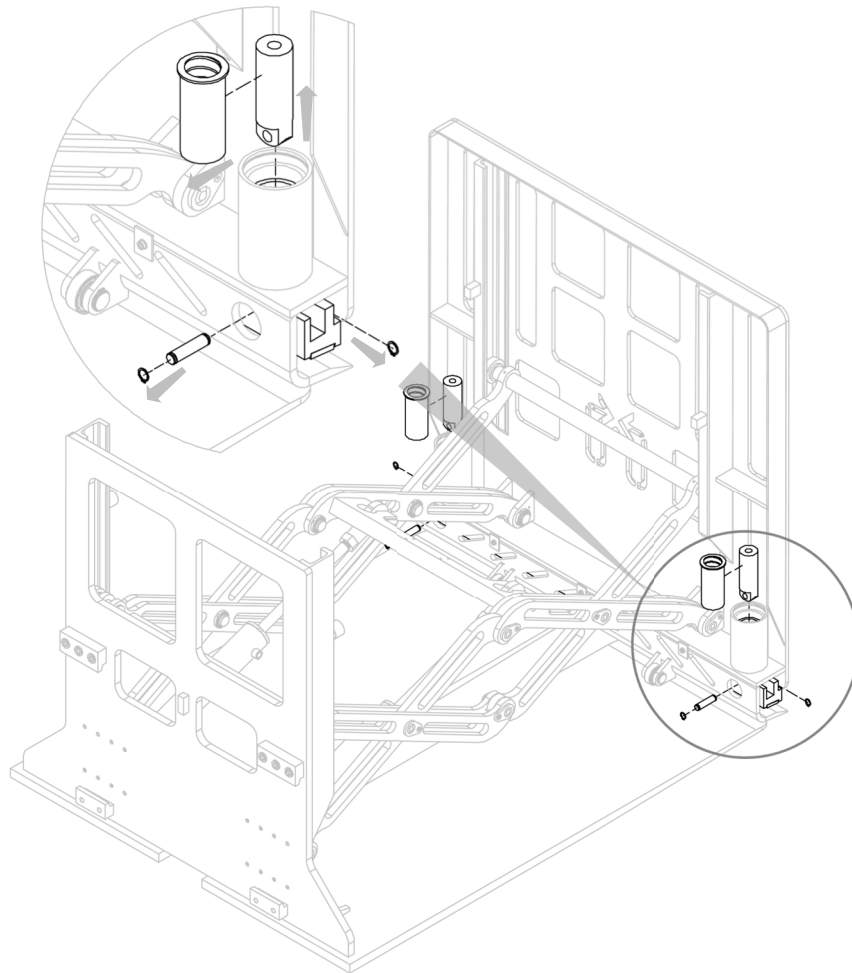

Figure 16
3. Remove the blade thrust pins (with their bushes) after removing the pins (with their snap rings) that hold them (see Figure 16).